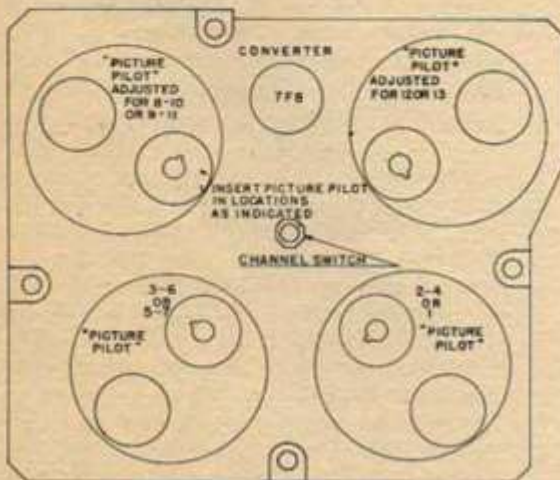

Fig. 5 - Socket Location for Picture Pilot
9. Insert the Picture Pilots for the desired channels into the correct sockets on the main chassis as shown in sketch, Fig. 5.
10. Place the channel number markers in the plastic caps and place on the buttons around the channel selector switch. These numbers must coincide with the channel actually selected by the switch. (See Fig. 5 & 5A). These figures show the required position of the Picture Pilots and the selector switch position.